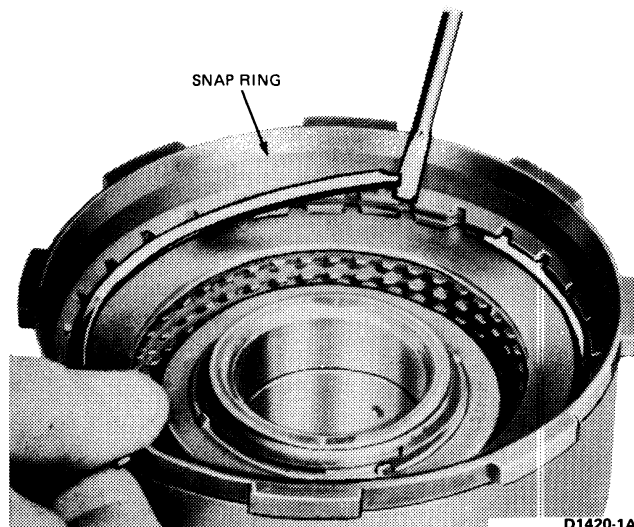

FIG. 66 Removing or Installing Reverse-High Pressure Plate Snap Ring
1. Remove the pressure plate retaining snap ring (Fig. 66).